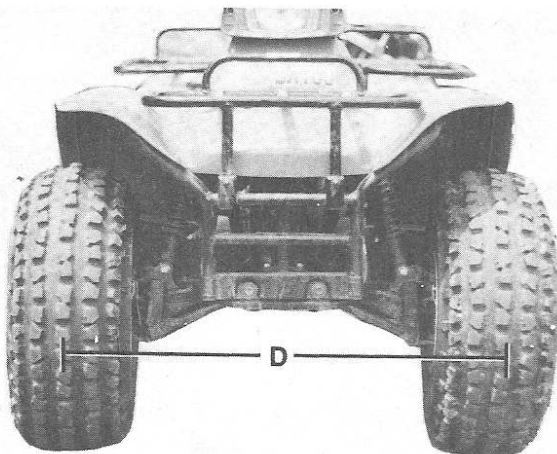
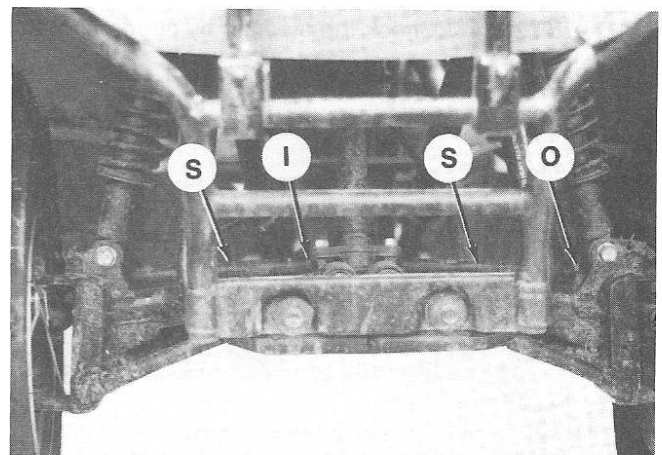

Fig. K4-22—Refer to text for correct procedures in measuring distance (D) for setting toe-in.
Fig. K4-23—Tie rod sleeves (S) are secured by inside (I) and outside (O) locknuts on each side.
**TOE-IN SETTING.** Place the steering handlebars in a straight ahead position. Use a suitable measuring tool and measure distance (D—Fig. K4-22), at spindle height, between the center of the tires on the front and rear sides. The measured distance (D) on the front side should be 32-37 mm (1.25-1.45 in.) shorter than the measured distance on the rear side. If not, loosen inside (I—Fig. K4-23) and outside (O) locknuts on the left and right tie rod assemblies and rotate tie rod sleeves (S) equally until a difference of 32-37 mm (1.25-1.45 in.) is noted.